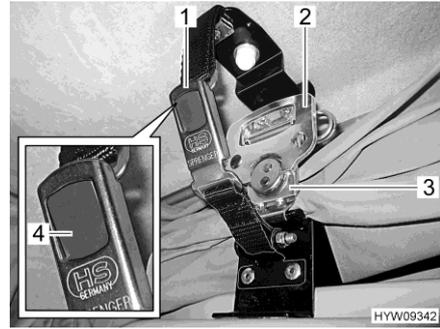

Fig. 62 Lock
- On both sides, pull down the quick-action turnbuckle (Fig. 62,3) and hang it into the holding plate.
- On each side, fold out the handle (Fig. 62,2) of the quick-action turnbuckle and turn half a turn in a clockwise direction.
- Plug both parts of the snap lock (Fig. 62,1) together, respectively. The grey push button (Fig. 62,4) engages.